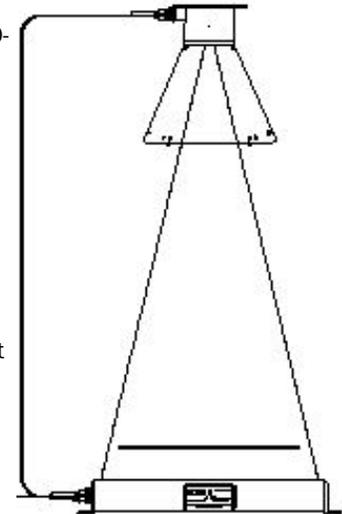

Figure E.1-1: Typical Single Sensor Small Hole Detection Sensor Setup
The SHD-4000-Series sensor set consists of an emitter with 20 foot [6.1m] emitter-to-processor cable and a receiver with 15 foot [4.6m] emitter-to-receiver cable for small hole detection applications (Figure E.1-1). Longer cables are available upon request (XCB Option). Each emitter contains scanned high-intensity infrared (IR) light emitting diodes (LED's) grouped into 10-1 inch [25mm] arrays per 10 inch [254mm] section. The 10 diode groups pulse consecutively to permit 0.125 millisecond hole detection's anywhere along the length of the group. Additional groups may be connected to the first (up to four groups) and operate consecutively with the first group. The visible light filtered receiver with its IR filtered photocell detects holes in strips moving at typical production line speeds.